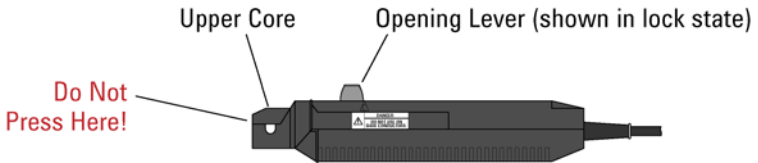

Figure 4. Use the Opening Lever
- 4 Using the probe's opening lever, clamp the sensor head around the conductor to be measured as shown in Figure 4 on page 12.
- 4 Slide the probe sensor Opening Lever into the Locked position. Refer to Figure 4 on page 12 for the location of the lever.